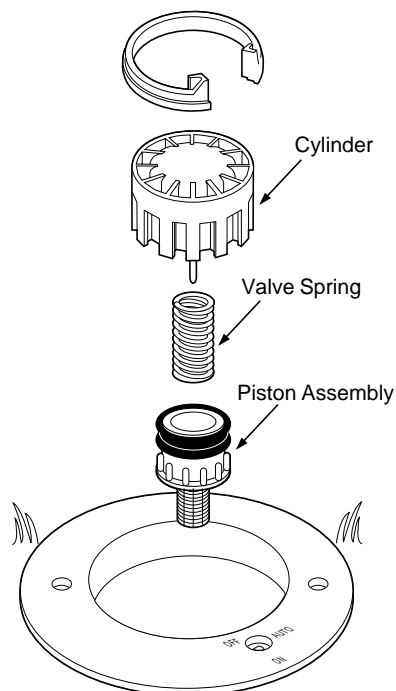

Figure 2
4. Install the conversion assembly into the sprinkler body. For part circle conversion assemblies, align the left watering border indicator to the desired position for effective watering. See **Figure 2**.